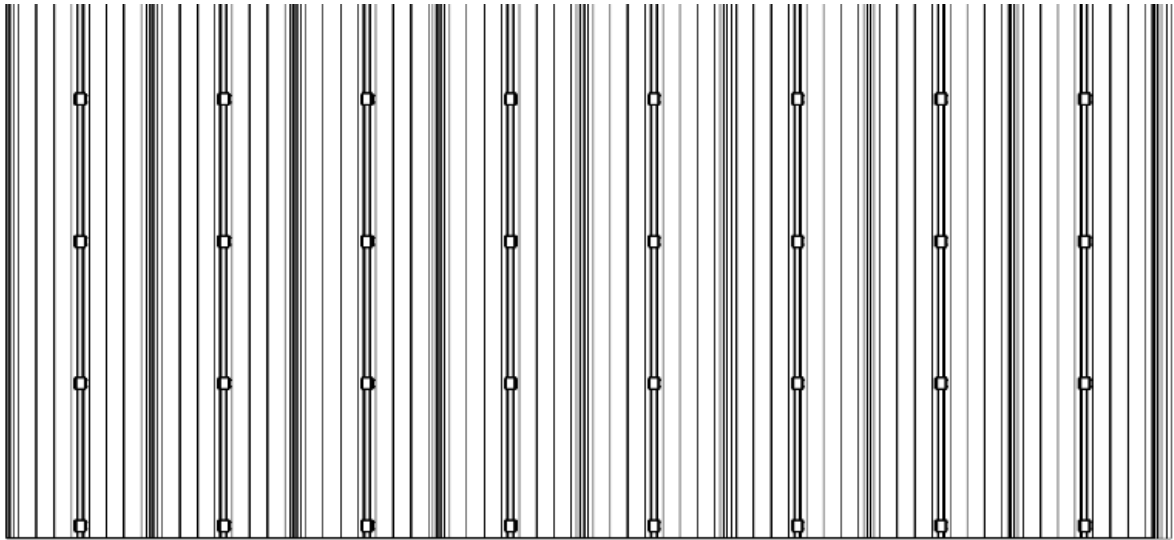
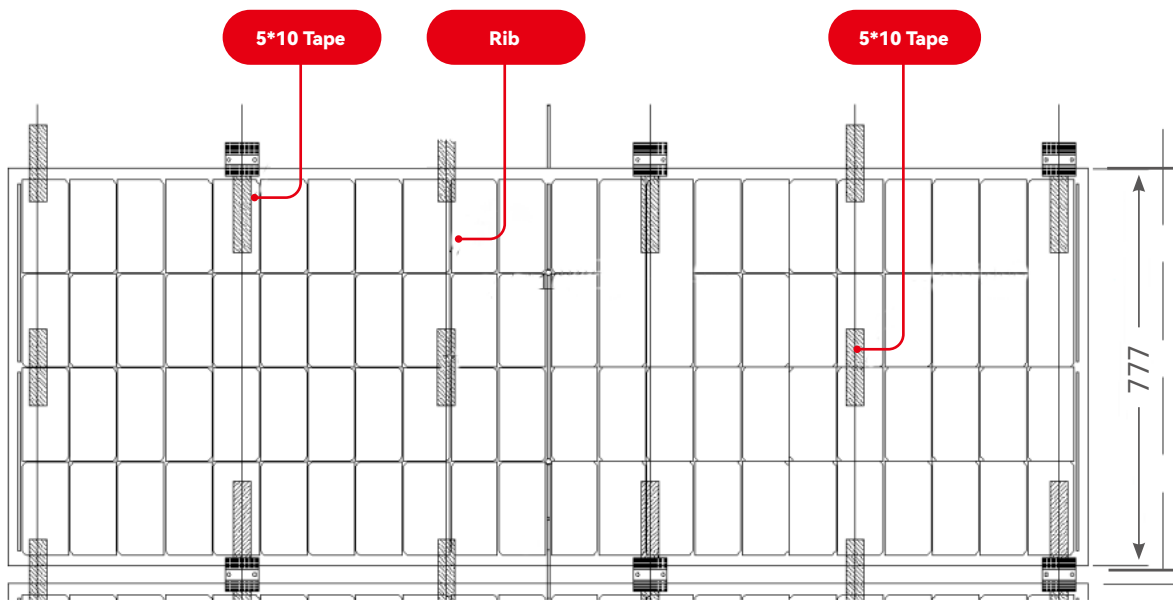

FIGURE 33
FIGURE 34
- ③ Use structural adhesive plus tape on the square rib (Figure 33), square rib position using 5mm thick, 10mm wide tape, tape placed on both sides of the clamps where there are clamps, tape placed in the middle of 2 products and in the middle of the product without clamps (Figure 34)
- ④ Installation of the remaining products in the same form as the installation of the angle-chip type colour steel tile roofing;